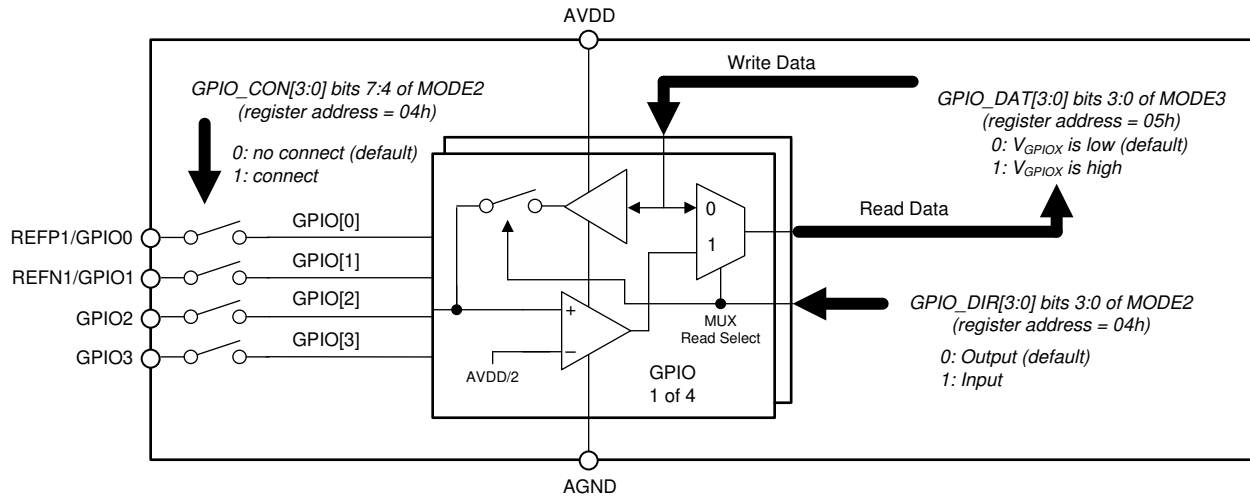

图 64. GPIO Block Diagram
The ADC provides four GPIO pins (GPIO0 through GPIO4). The GPIO are digital inputs and outputs with logic values that are read and written by the GPIO\_DAT bits of the MODE3 register. Two GPIOs are available on dedicated pins and two GPIOs are multiplexed functions with an external reference (REFP1 and REFN1). The GPIO input and output levels are referred to AVDD and AGND. As 图 64 shows, the input threshold value is AVDD / 2 (typical). The GPIO\_CON[3:0] bits set the GPIO connection to the designated pin (1 = connected). The GPIO\_DIR bits program the direction of the GPIO as an input (1) or output (0). The GPIO\_DAT[3:0] bits are the data values for the GPIO. If a GPIO pin is programmed as an output, the value read is the register data previously written.